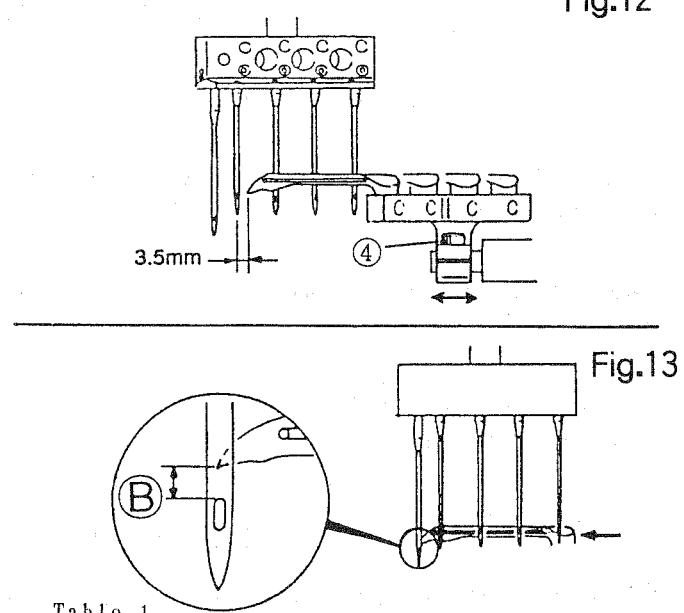

Fig.12
[2] SETTING POSITION OF LOOPER IN RELATION TO NEEDLE (Figs. 12 - 17)
(1) To adjust the looper setting distance (Fig. 12)